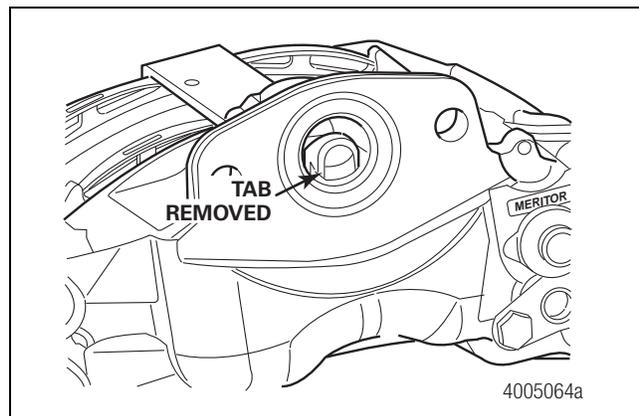
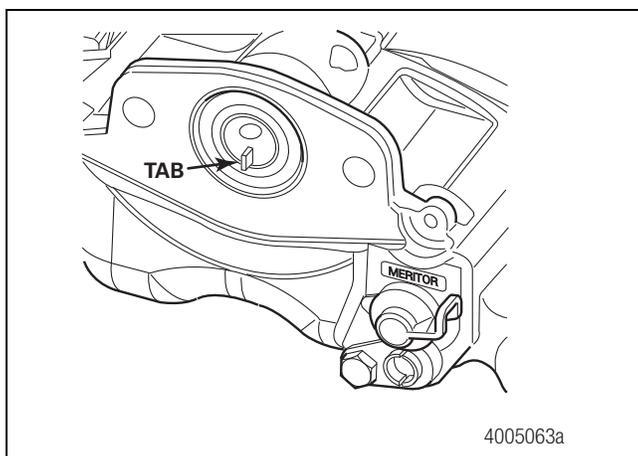

Figure 7.5
Figure 7.4
3. Before you install the air chamber onto the caliper assembly, ensure the perforated transit plug is removed from the caliper chamber seal by pulling the tab. Figure 7.4 and Figure 7.5.